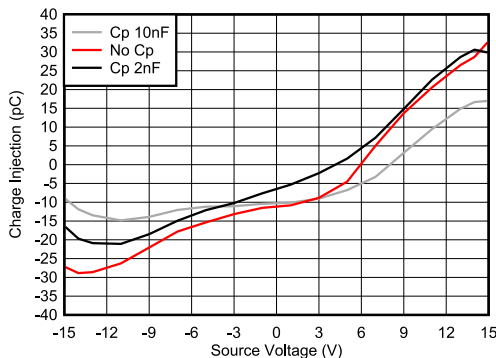

图 8-3. Charge Injection Compensation
The TMUX6219 contains specialized architecture to reduce charge injection on the source (Sx). To further reduce charge injection in a sensitive application, a compensation capacitor (Cp) can be added on the drain (D). This will ensure that excess charge from the switch transition will be pushed into the compensation capacitor on the drain (D) instead of the source (Sx). As a general rule, Cp should be 20x larger than the equivalent load capacitance on the source (Sx). 图 8-3 shows charge injection variation with source voltage with different compensation capacitors on the Drain side.